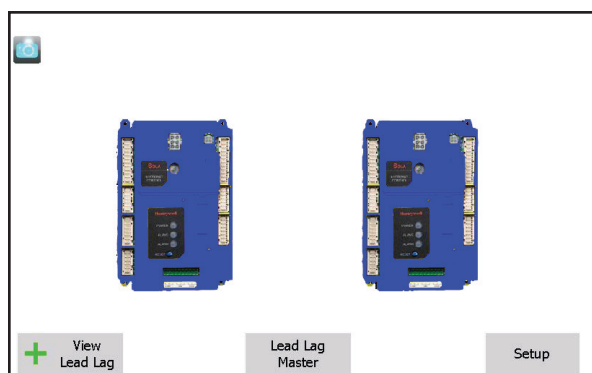

Fig. 68 – 'home' screen
- Let's start by setting the Flap Valve ID for the Primary control for Boiler 1. To do this, start at the 'home' screen (Fig. 68). (To reach the 'home' screen, press the Home icon in the upper left corner of any screen.)